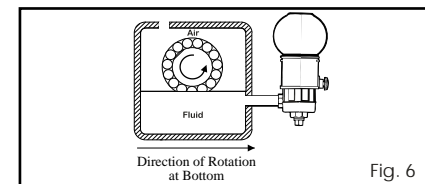

Fig. 6
2. Oiler location with respect to bearing type, rotating speed of equipment, multiple start-ups, slinger rings, etc. may cause the oiler to misfeed. Check lubricant levels periodically to ensure proper application. Mount oiler facing direction of rotation at bottom of shaft. (Fig. 6)
5. Frequent equipment starts may cause overfilling. This can be minimized by mounting the oiler on the side facing the direction of rotation (Fig. 6).